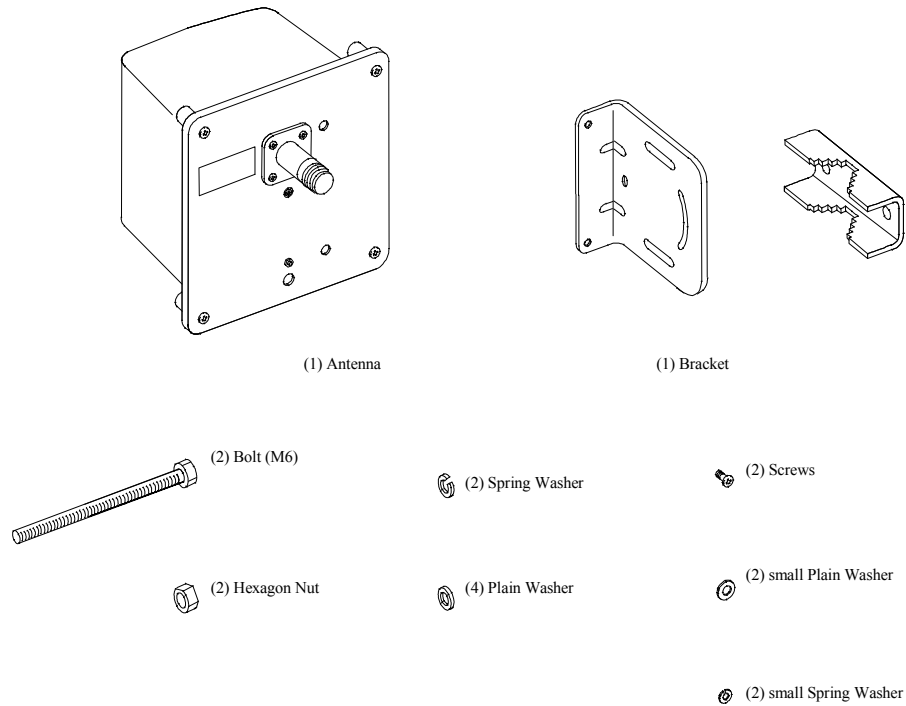

Figure 2-2 : FSU Antenna and Accessories
1. Unpack the FSU Antenna and accessories. Make sure all parts are in good condition. The FSU Antenna and accessories are shown in Figure 2-2.